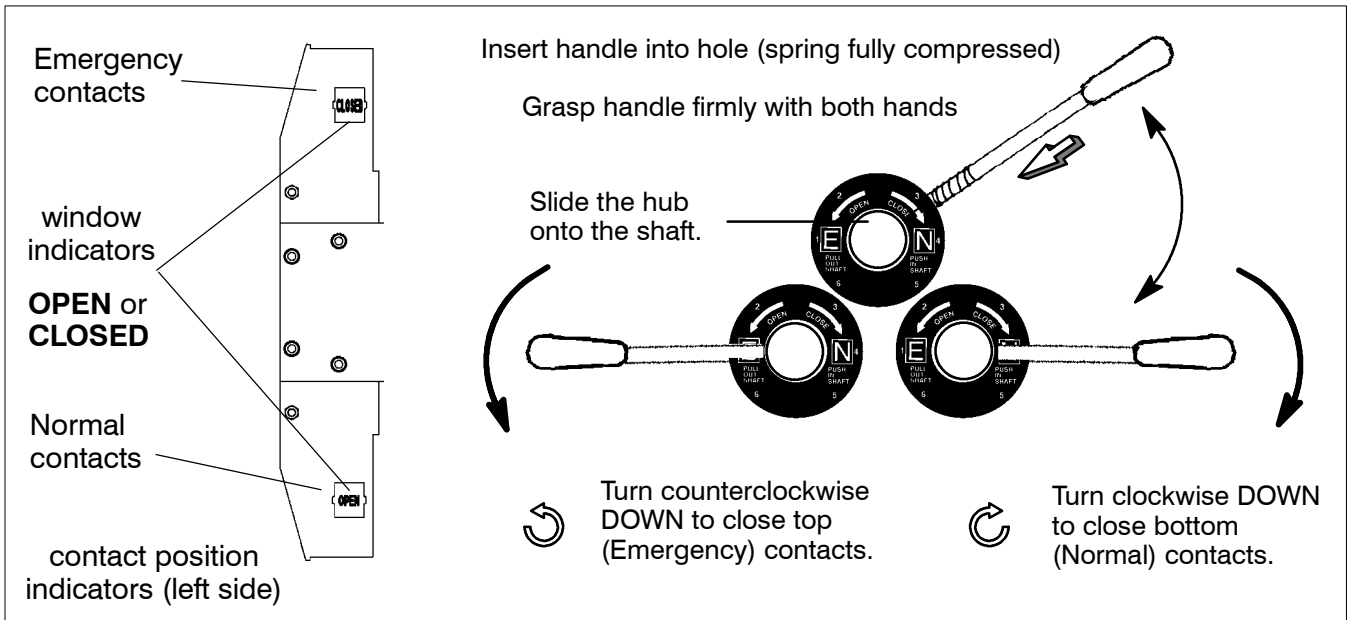

Figure 1-8. Removable maintenance handle and positions on 1600 – 3000 amp. G-design transfer switches.
*1600 through 3000 amp. G-design* See Figure 1-8.